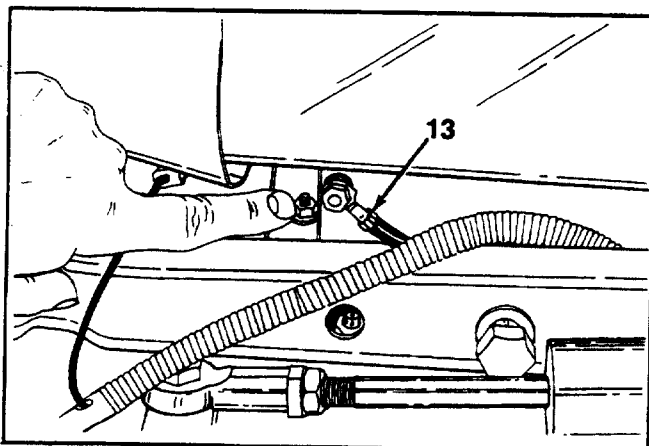

FIGURE 9.
11. Remove the engine ground cable, located on the lower left hand side of engine. See figure 9.